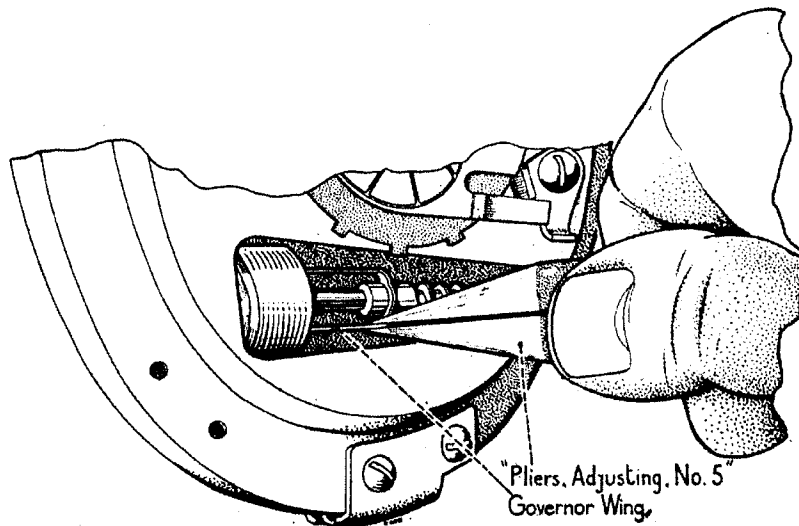

FIG. 22. ADJUSTING GOVERNOR TO ALTER DIAL SPEED
13. Dial speed. The speed of the dial can be varied by adjusting the wings of the governor. The wings should be bent from the root only, by means of "Pliers, Adjusting, No.5" (see Fig.22). To increase the speed of the dial, the wings should